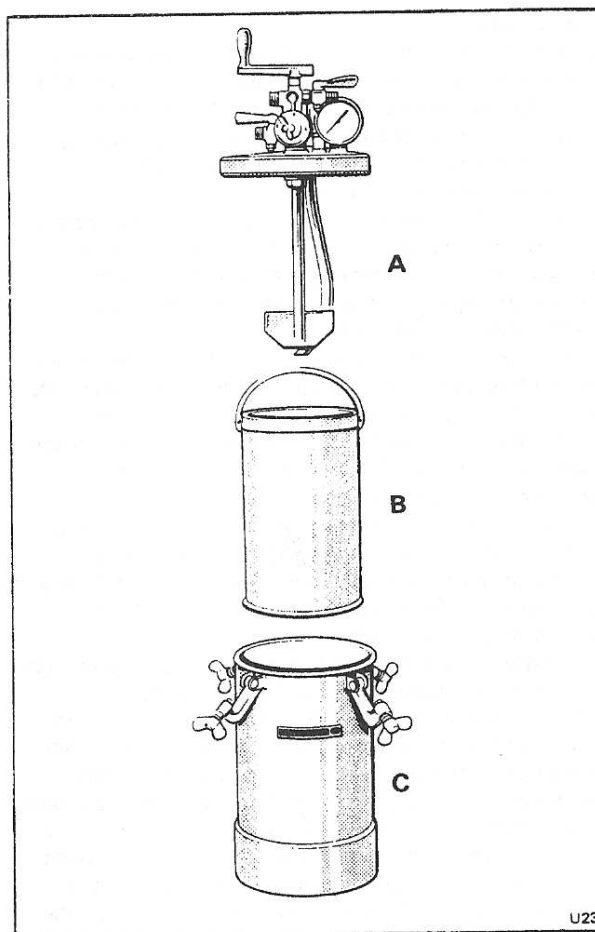

Fig. S60 Pressure feed paint tank
3. **Pressure feed**. In this system the paint container is a pressure feed tank (see Fig. S60), separate from the gun, and may have a capacity of between 9,09 litres and 181,83 litres (2 gal. and 40 gal.). Certain containers have a larger capacity. The paint is conveyed to the gun through a length of flexible fluid hose.
Pressure feed tanks are, in many cases, provided with a light insert container (see Fig. S60). This greatly facilitates cleaning and change of material; some tanks can be mounted on a castor base, making removal from place to place an easy matter. The tanks are strongly constructed to avoid any risk of distortion under pressure and are usually galvanised inside and outside. The lid is secured by clamps and is fitted with a gasket to prevent air leakage. There is a safety valve, an air release valve and at least one air and one fluid draw-off cock. On the
larger size tanks there are two or three extra air and fluid cocks, so that the tank can be used by more than one operator. Provision is made for a hand operated agitator to keep the material properly mixed (see Fig. S60), and for large capacity tanks it is advisable to have an agitator driven by a compressed air motor (see Fig. S61).